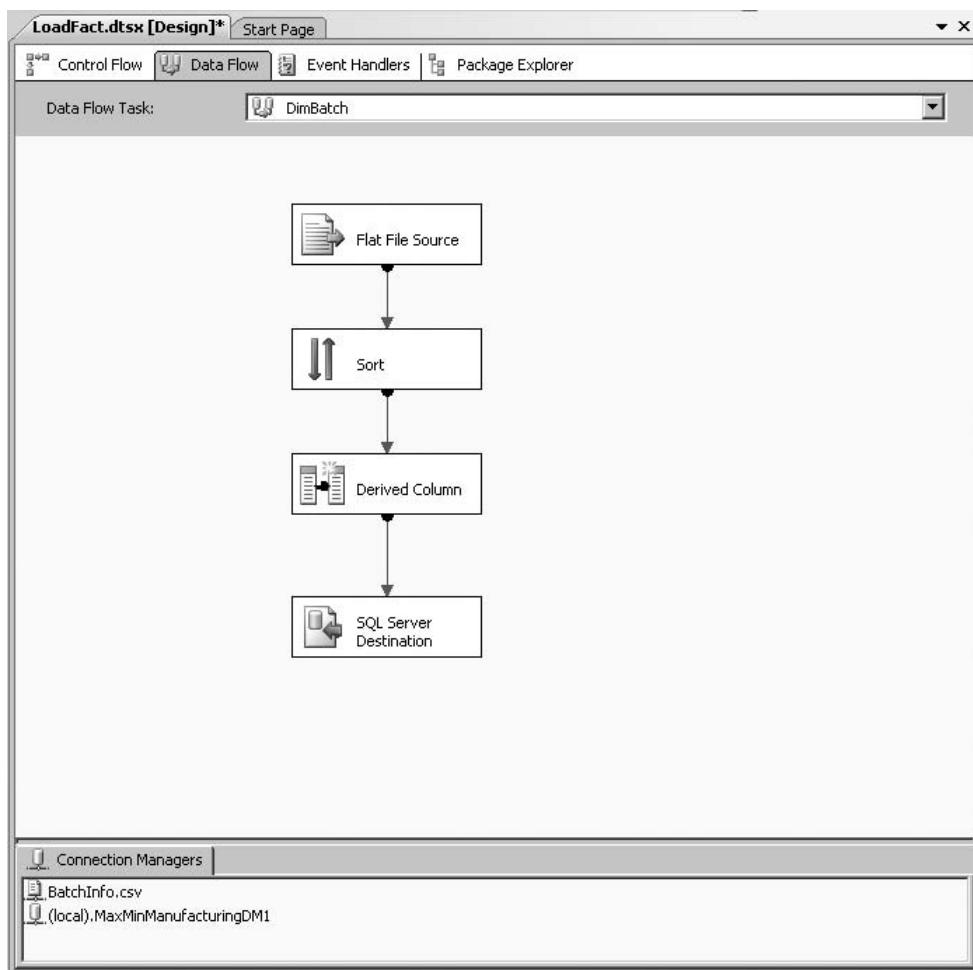

Figure 8-17 The Data Flow tab for the Load DimBatch Data Flow task
44. Click OK to exit the SQL Destination Editor dialog box. The Data Flow tab should appear as shown in Figure 8-17.